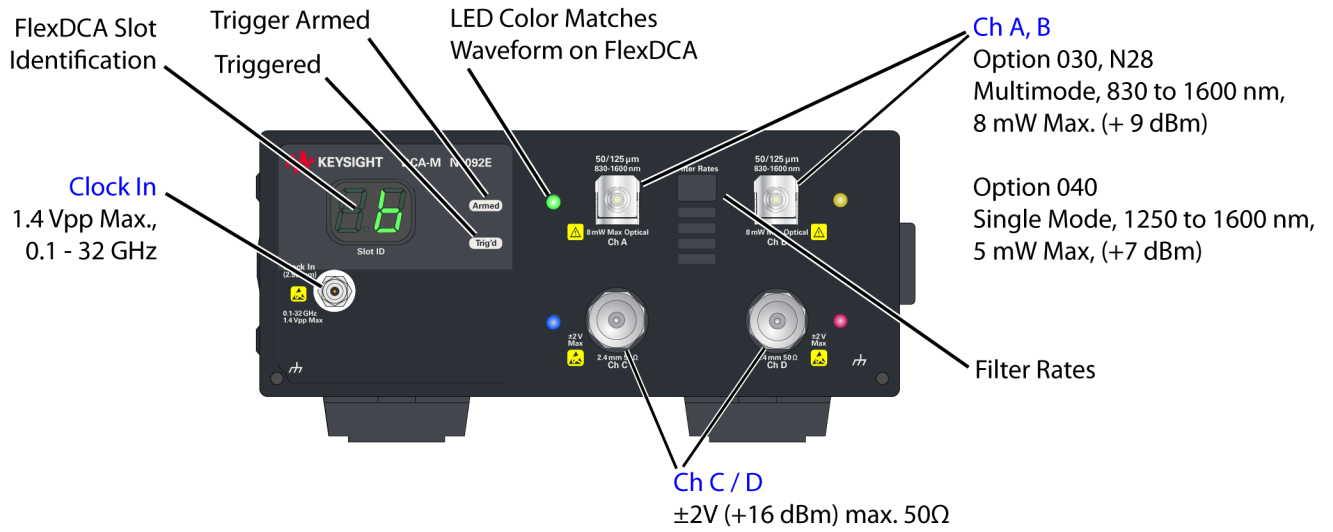

Figure 13. N1092E Front Panel
- *Figure 13, N1092E Front Panel*, on page 36